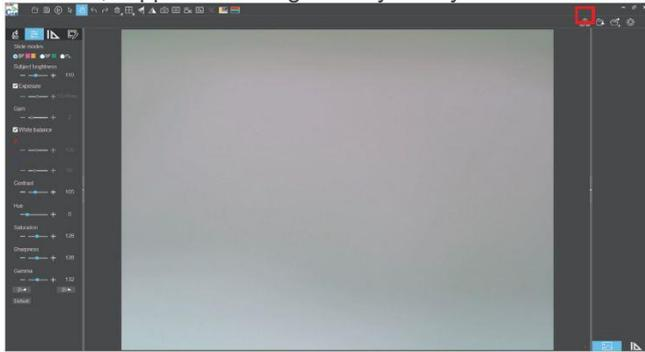
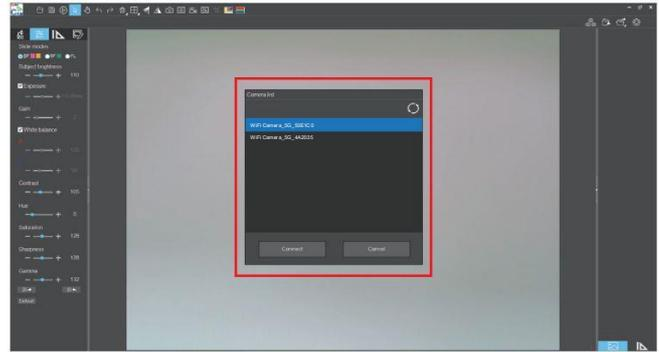

Figure 1
Figure 2
- (1) Connect a Windows PC or laptop that supports 5G WiFi IEEE802.11ac protocol to the same local area network as the camera.
- (2) Install and run the software A59.4972 Capture Pro on the Windows PC or laptop.
- (3) When there is only one network camera in the local area network, the software can automatically get the live image from the camera.
- (4) When there are multiple network cameras in the same local area network, click the icon "  " in the upper right corner of A59.4972 Capture Pro (Figure 1), the list automatically shows all cameras in the current local area network (Figure 2), select a camera as needed, support switching midway at any time.